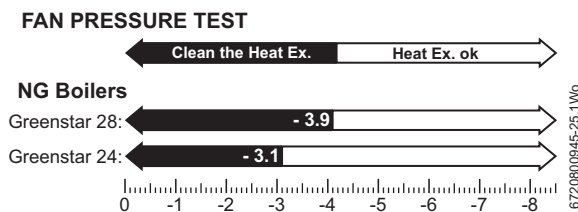

Fig. 54 Fan pressure readings
- ▶ The pressure reading will be negative, refer to fig 54